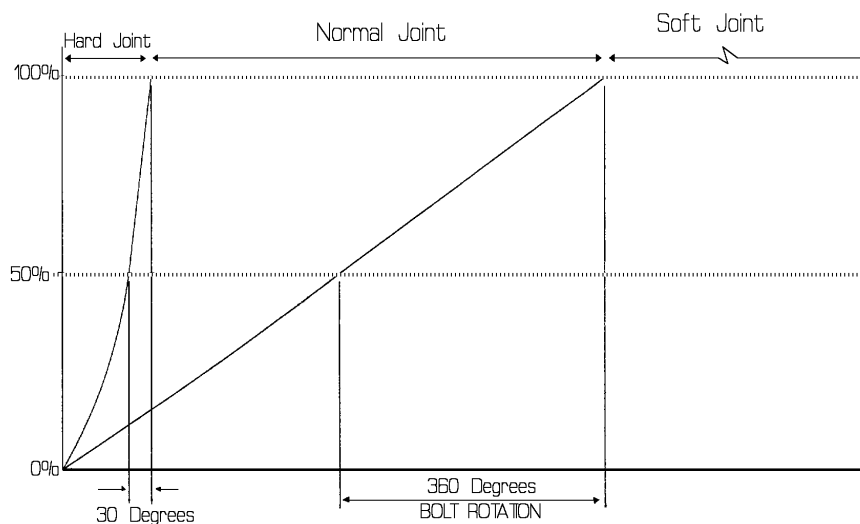

FIG 6
1. Select hard or soft joint as required (see Figure 6).
There are three basic joint types defined in International Standards. (See Figure 6).